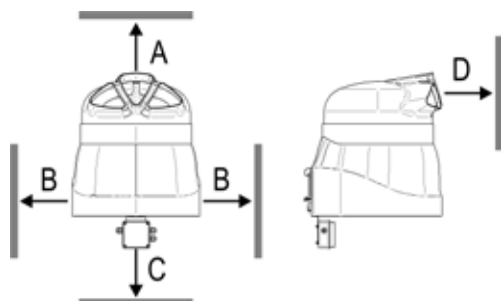

Fig. 5 - Minimum distances
***Respect the minimum distances indicated in Fig. 5.***